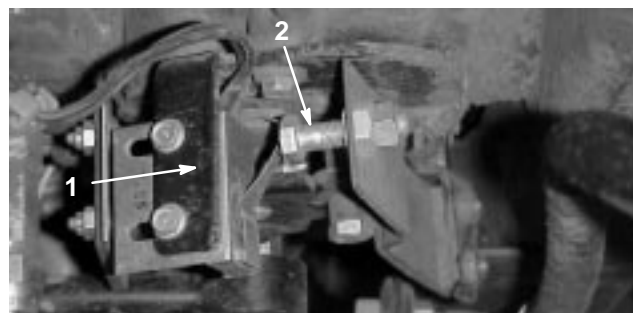

Figure 73
1. Make sure traction pedal is in neutral position. Loosen jam nut on switch adjusting screw (Fig. 73).